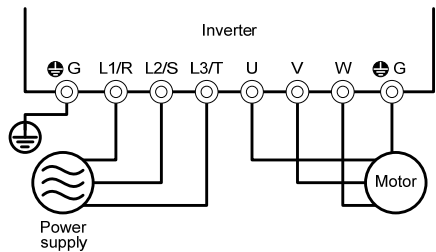

Figure 4.1 Connection of Main Circuit Terminals
- (1) Check that the wiring is correct.
Especially check the wiring to the inverter input terminals L1/R, L2/S and L3/T and output terminals U, V, and W. Also check that the grounding wires are connected to the grounding terminals (G) correctly. See Figure 4.1.
- (2) Check the control circuit terminals and main circuit terminals for short circuits or ground faults.
- (3) Check for loose terminals, connectors and screws.
- (4) Check that the motor is separated from mechanical equipment.
- (5) Make sure that all switches of devices connected to the inverter are turned OFF. Powering on the inverter with any of those switches being ON may cause an unexpected motor operation.
- (6) Check that safety measures are taken against runaway of the equipment, e.g., a defense to prevent people from access to the equipment.